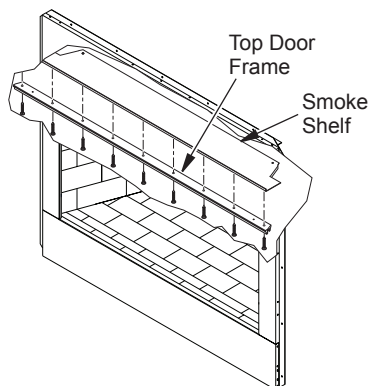

Figure 35 - Installing Top Door Frame
3. Place bottom door frame on top of ash lip at front of fireplace (see Figure 35).
4. Secure bottom door frame to brick with two hex screws provided as shown in Figure 35 using a 7/16" open end or adjustable wrench.